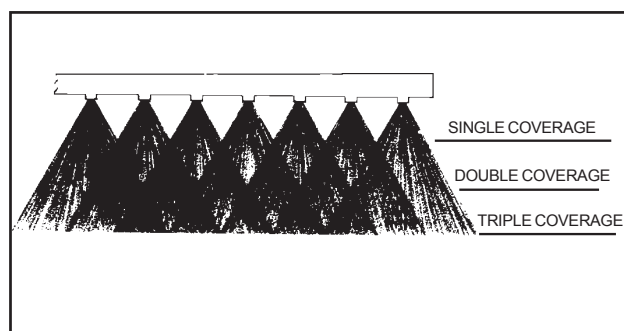

FIGURE 3-8. SPRAY FAN COVERAGE
1. Set the spraybar height to provide exact triple coverage of the spray fans. Refer to Figure 3-8. Usually this coverage is found when the bar is set 9 to 11 inches (23 to 28 cm) above the ground.